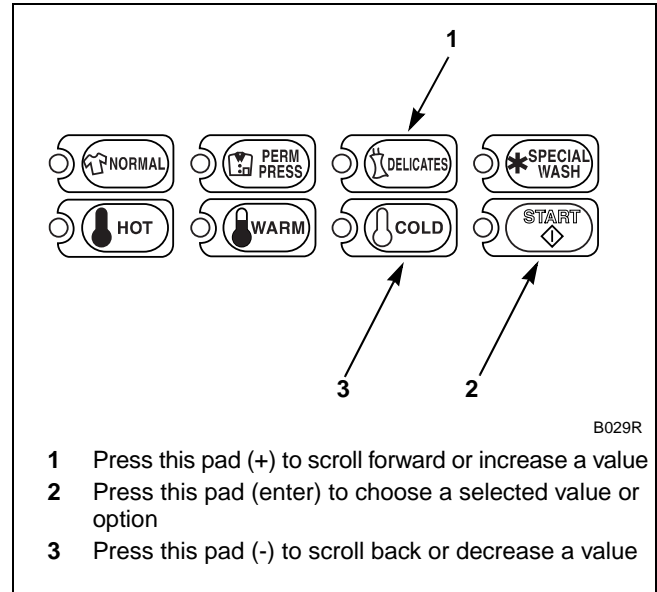

Figure 212
5. Press the DELICATES (+) or the COLD (-) keypad to increase or decrease the current number of minutes displayed in the VFD to the desired number of minutes. Refer to *Figure 212*.
**NOTE: The Special Cycle Extra Wash Fill/Agitate Time can be set from zero (0) to 15 minutes.**